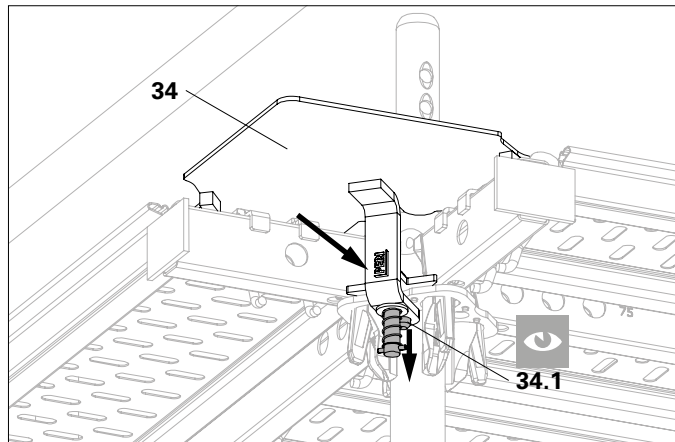

Fig. C1.09
Fit an Inside Corner Plate EDP (34) for the remaining internal corner (Fig. C1.09 – C1.11)
2. Place the Inside Corner Plate EDB (34) next to the adjacent console bracket decks.
- The inside corner with internal console brackets is now installed. (Fig. C1.09)